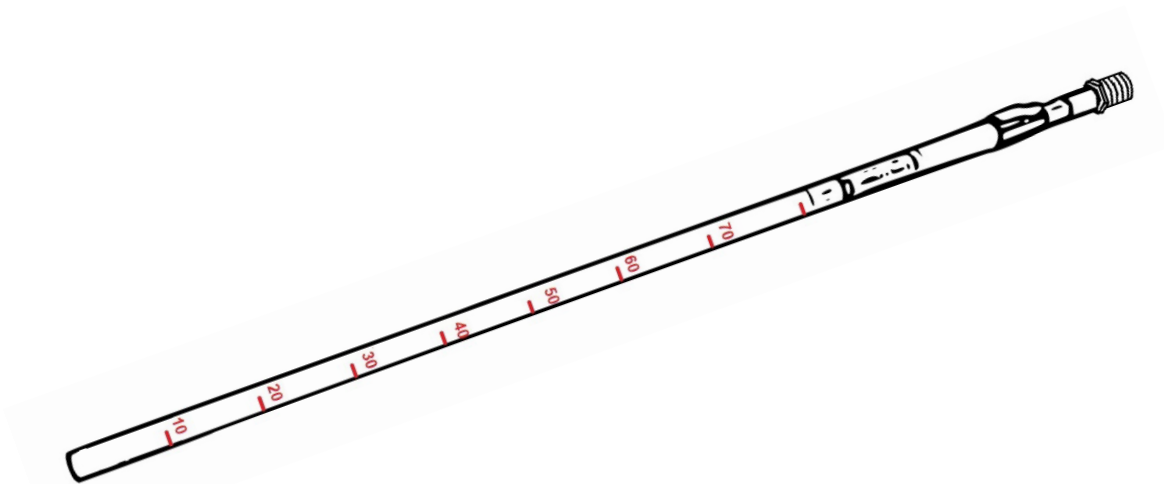

Figure 7. Extension pole marked every 10 cm.
- 12 On the lower half of the extension pole, use a tape measure and nail polish to mark 10 cm increments from the bottom of the pole up (see Figure 7).